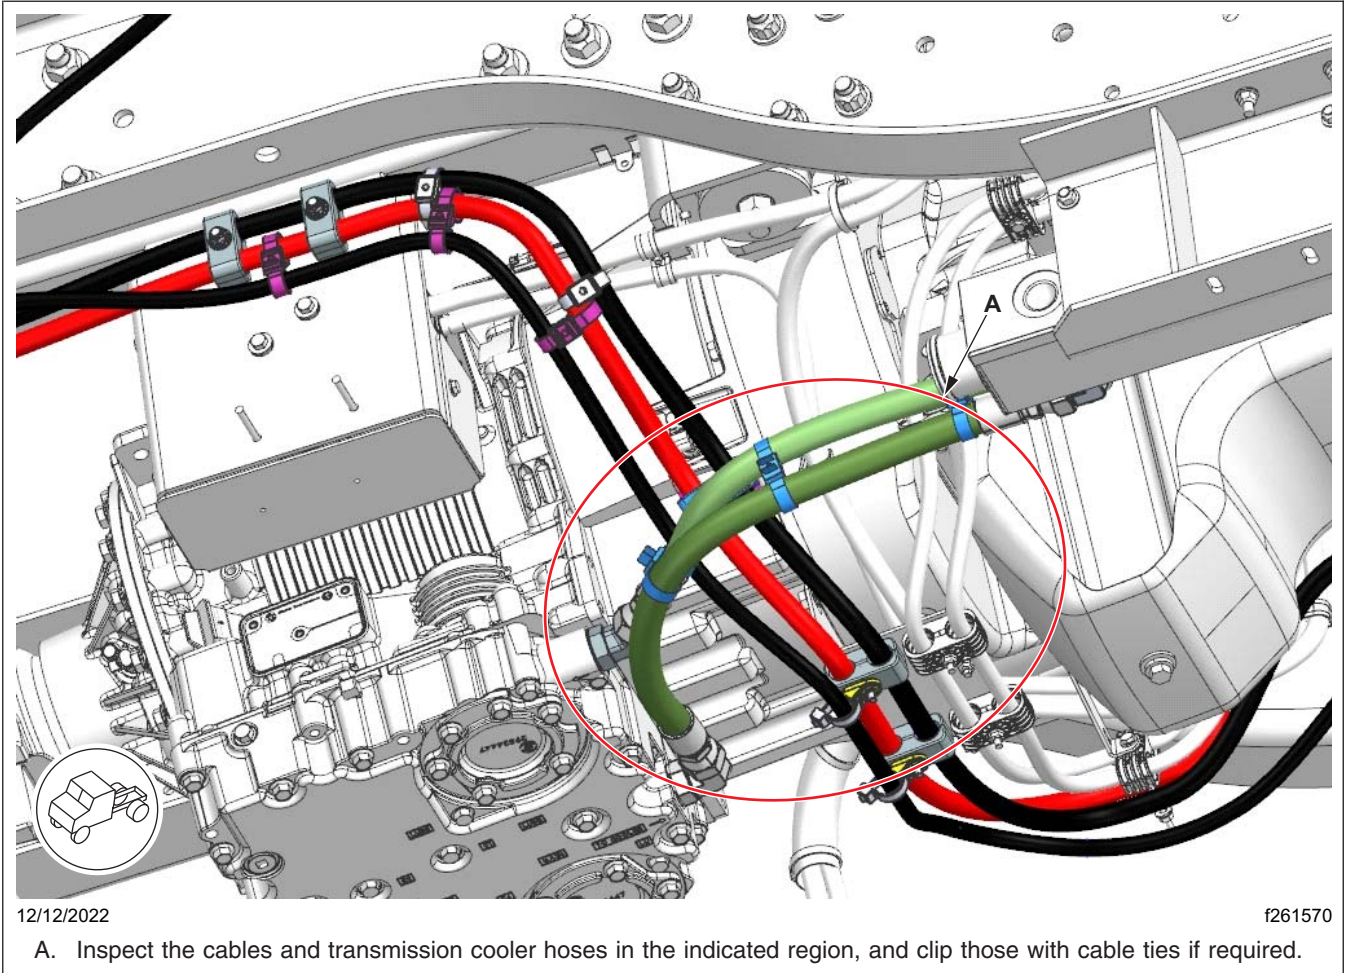
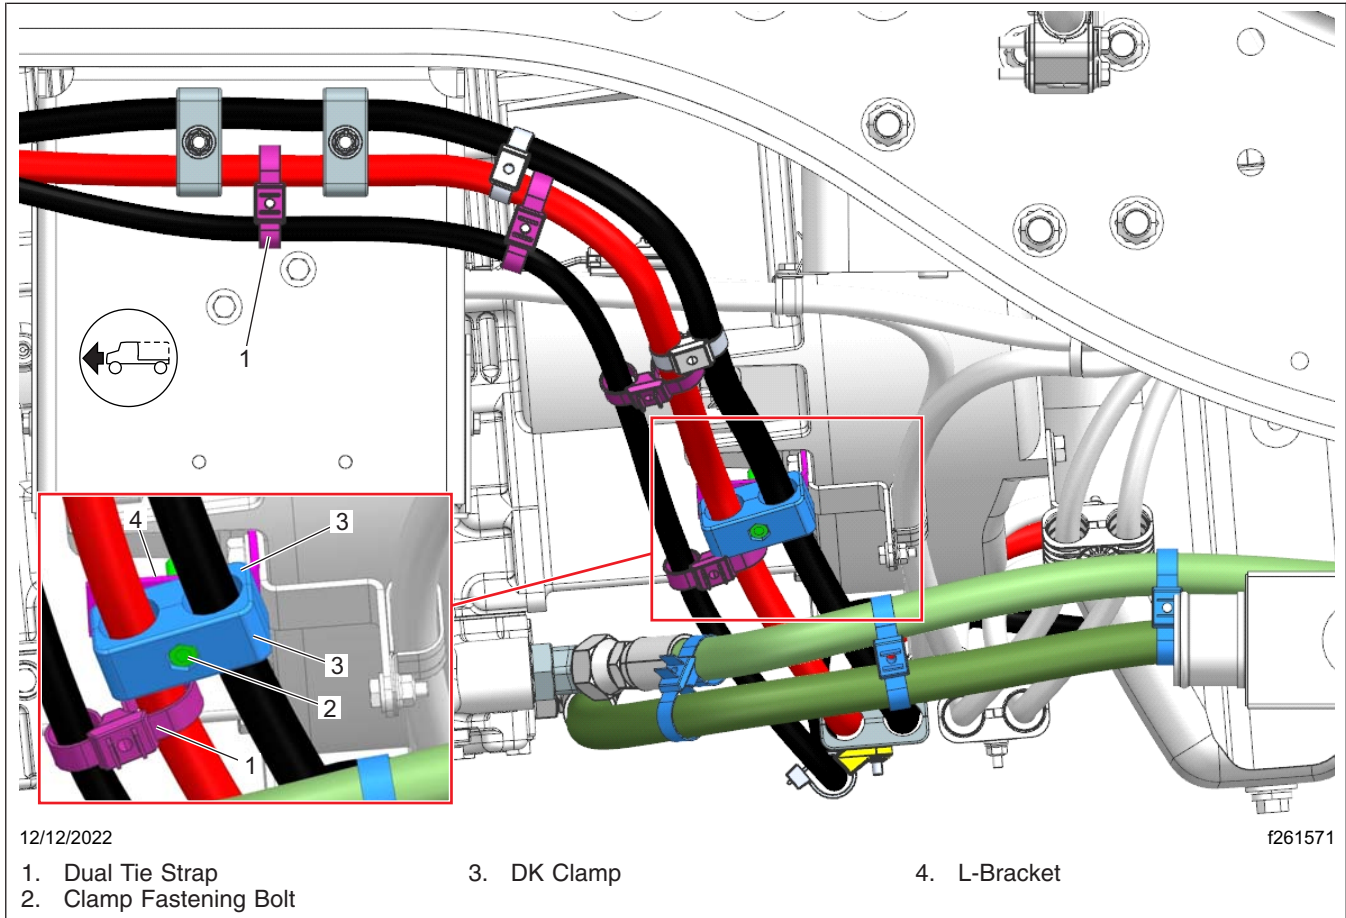

Fig. 3, Ideal Positioning of the Cables, Clamps, and Hoses
Fig. 4, Clipping the Cables and Hoses
10. **Figure 3** and **Figure 4** show the ideal positioning of the power cables, clamps, and transmission cooler hoses.